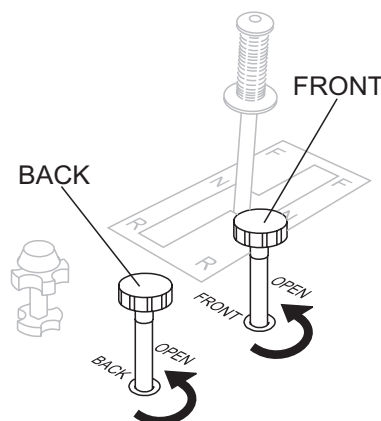

Figure 24. Sprinkler Controls
1. If the application requires the wetting of a surface, front and rear drum sprinkler controls have been provided. These controls (Figure 24) are located to the bottom right of the operators seat. The **front** valve controls the water supply to the front drum spray bar and the **back** valve controls water flow to the back drum spray bar.